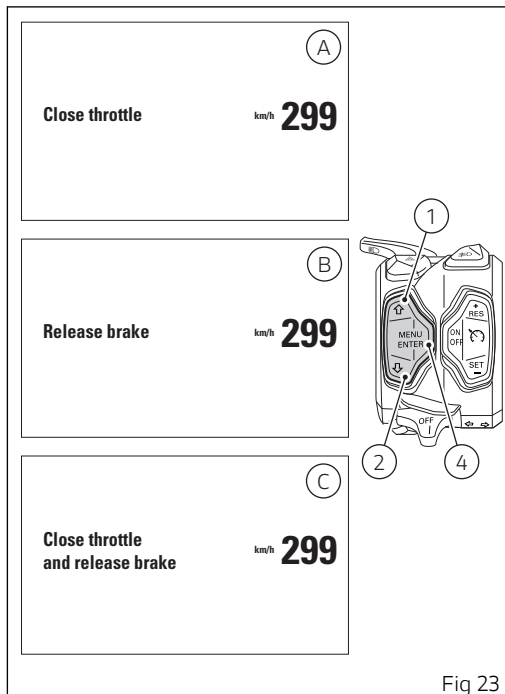

Fig 23
- if throttle is "open" the instrument panel activates the "CLOSE THROTTLE" (A, Fig 23) indication; only when throttle is "closed" the new selected riding mode is confirmed and memorised, and the instrument panel goes back to "standard page" displaying;
- if throttle is "closed" but brakes are operated, the instrument panel activates the "RELEASE BRAKES" (B, Fig 23) indication and only when brakes are released the new selected riding mode is confirmed and memorised, and the instrument panel goes back to standard page displaying;
- if throttle is "open" or if brakes are operated and vehicle is moving, the instrument panel shows "CLOSE THROTTLE AND RELEASE BRAKES" (C, Fig 23) and, only after all conditions are met (closed throttle and brakes released or vehicle stopped) the instrument panel confirms and memorises the new selected riding mode and goes back to "standard page" displaying.